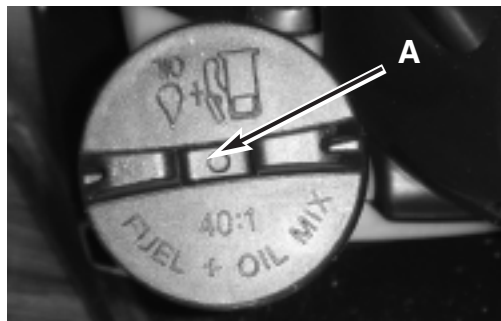

Fig. 22
NOTE: Keep vent (A) on fuel cap clean of debris (Figure 22).